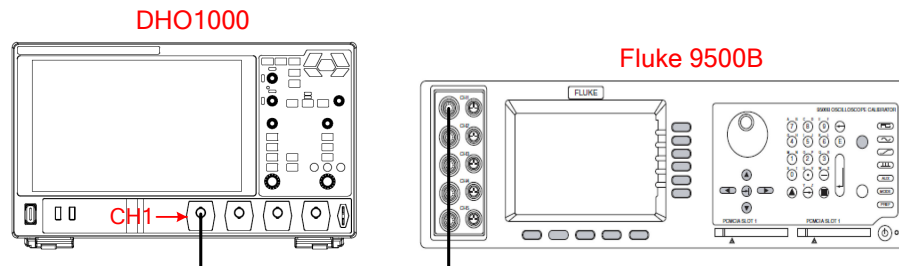

Figure 5.6 Time Base Accuracy Test Connection Diagram
1. Connect the active head of Fluke 9500B to CH1 of the oscilloscope, as shown in *Figure 5.6*.